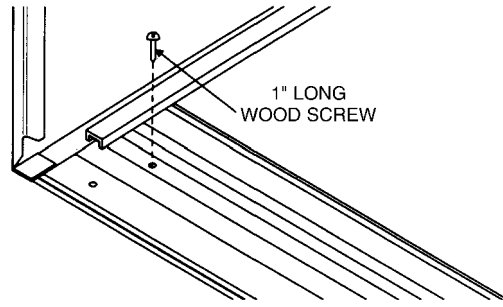

Fig. 26 – Securing Bottom Rail of Cabinet
14. Secure bottom rail to wood frame with two large wood screws (1" long) using the two holes in the bottom of the channel. (See Fig. 26.)